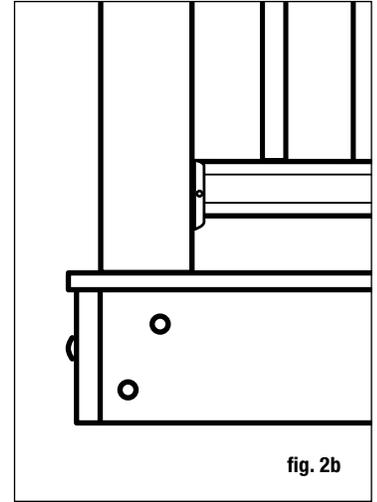

fig. 2b
**Step 3** Position, plumb with a level, and clamp the rail post on the interior face of the joist. Plumb again. The 4x4 railing post should be bolted to the inside of the joists using two 1/2"x6" galvanized carriage bolts. Corner posts use a third carriage bolt inserted through the adjacent joist (fig. 2b).